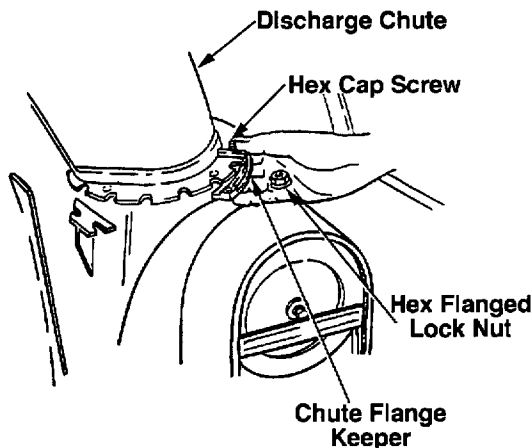

Figure 4
3. With their flat surface facing downward, place the chute flange keepers (2-1) beneath the flanges of both the discharge chute (1-2) and the chute adapter. Insert the hex cap screws (2-2) up through the flange keepers and discharge chute flange as shown in Figure 4, and secure with the hex flanged lock nuts (2-3). After assembling all three chute flange keepers, tighten all lock nuts until snug, then back off (loosen) approximately 1/4 turn.